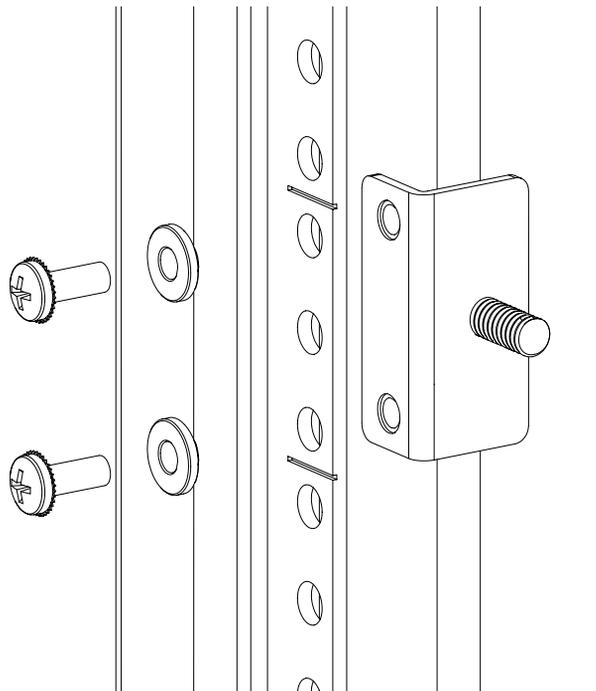

Figure 3: Installing the rear mounting brackets (HP System/e rack-left rear upright)
- For an HP System/e rack, install each of the two rear mounting brackets with (2) #10-32 x 1/2-inch Phillips pan-head screws and (2) #10 alignment washers as shown in Figure 3.